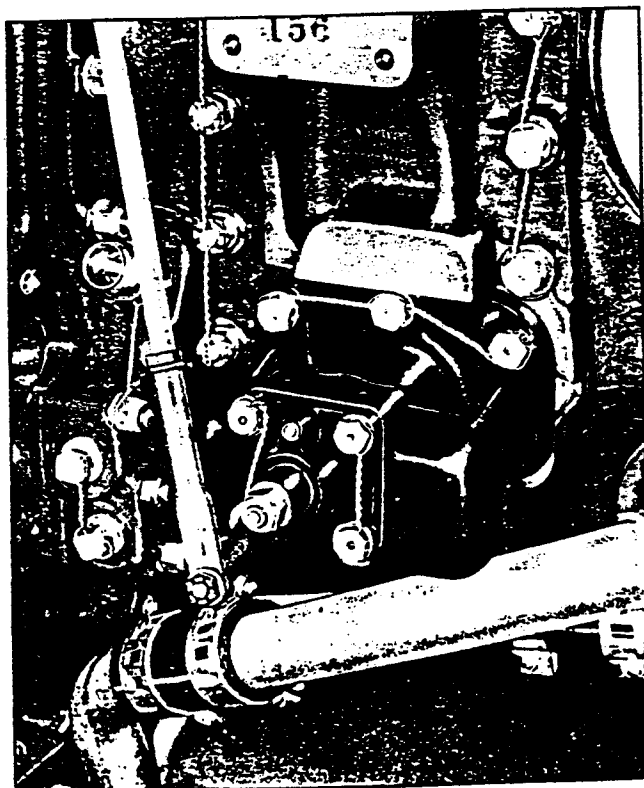

Figure 1. Engine Fan Speed Control
13. ENGINE SECTION COOLING. (See figures 1 and 2, paragraph 14 a.)
(b) Component parts encircled by cooling shrouds (exhaust pipes and headers, exhaust collector rings, tailpipes, and exhaust ducts leading to the turbosuperchargers) receive an air supply both from the engine fan and the ram air duct. The relative influence of these two sources varies in accordance with the air pressure at the entrance of the ram air inlet duct. Refer to paragraph 13 e. Air ejection occurs through the overboard wastegates or valves as illustrated in figure 1, Section IV, paragraph 14 a.
(2) GROUND OPERATION.- The engine fan is the only source of air supply for engine section cooling while the airplane is on the ground. Refer to figures 1 and 3, and paragraph 13 e.
(1) DESCRIPTION.- The hydraulically driven engine fan is secured to the accessory drive case at the anti-propeller (rear) end of the engine. It is controlled manually by an adjacent selector valve (fan speed control) in accordance with cooling demands. The fan drive low ratio gear is bolted to the rear face of the fan drive high ratio gear and this assembly is splined onto the fan drive shaft. The hub of the high ratio gear seats against the thrust bearing inner race and is retained in place with a spanner nut. The low ratio gear meshes with the low ratio hydraulic coupling fan intermediate drive pinion and the high ratio gear meshes with the two high ratio coupling fan intermediate drive pinions. The cooling fan is bolted to the face of the flanged fan drive shaft.
(2) REMOVAL.- Refer to paragraph 13 i (5).
(3) INSTALLATION.- Refer to paragraph 13 j (1).
d. ENGINE FAN SPEED CONTROL. (See figures 1 and 2.)
(1) DESCRIPTION.- The speed of the engine fan is controlled by a hydraulic valve which is actuated by a 28 volt d.c. reversible motor. The actuating motor is mounted on the right side of the accessory section of the engine, and is wired through the engine disconnect box to the flight engineer's junction panel which is located under the engineer's floor. The circuit from the junction panel picks up the current from the 28 volt d.c. supply. Control is effected by a double throw momentary toggle switch that is normally in an OFF position. It is located on the engineer's upper electrical control panel. The two ON positions are designated "WARMER" and "COOLER", and when the switch is placed in either of these positions, the circuit to the motor is closed causing the motor to rotate in the appropriate direction to respectively reduce or increase the fan speed.